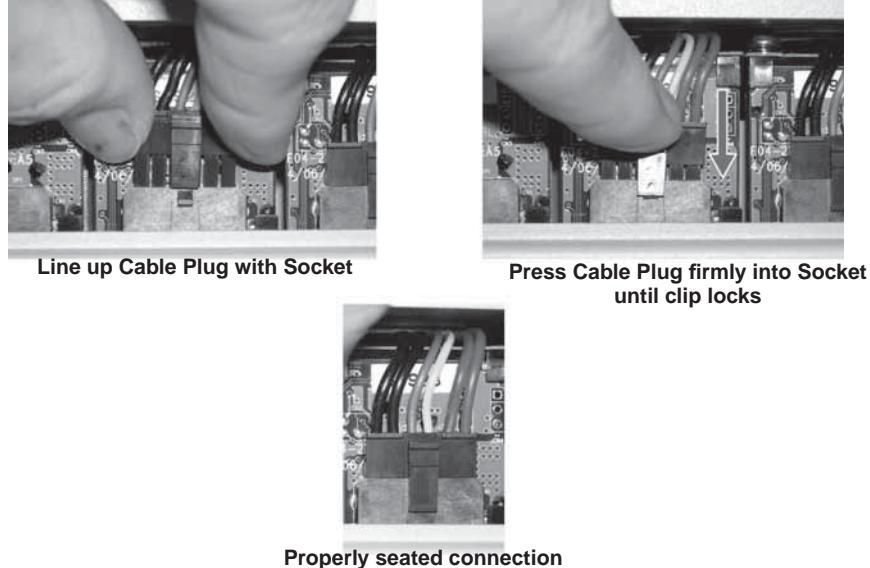

Figure 6: Cable Plug and Socket
- At each connector, firmly grip the cable plug between thumb and index finger. Line up the plug with the socket below it and insert it downward all the way until the latch locks completely. The latch should click into place as shown in Figure 6.